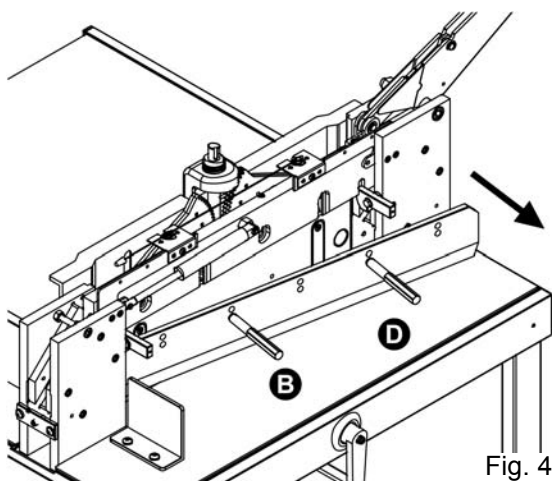

Fig. 4
- (11) Loosen blade holders (only half turn) and lower the blade downward from the blade carrier. Take out the blade carefully. Secure the blade so the sharp edge will not be exposed and remove the blade holder tools. **NOTE:** To prevent damaging the blade, do not let the blade edge contact any surface except the cutting surface or blade carrier. (Fig. 4)